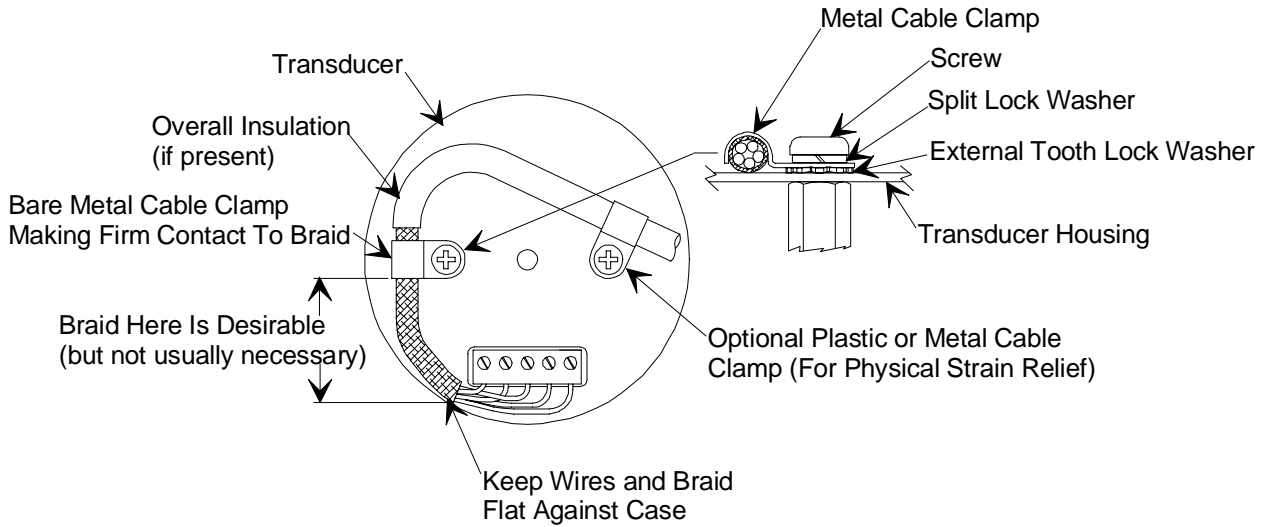

Figure 1: Preferred Method to Connect a Shielded Cable
4. For shielded cables with flying leads at one or both ends; it is important at each such end, to ground the shield *before* the wires exit. Make this ground with absolute minimum length. Refer to Figures 1 and 2, page 13. (A ¼ inch piece of #22 wire may be undesirably long since it has approximately 5 nH of inductance, equivalent to 31 ohms at 1000 MHz). After picking up the braid's ground, keep wires and braid flat against the case. With very few exceptions, grounded metal covers are not required over terminal strips. If one is required, it will be stated in the Declaration of Conformity or in the instruction manual.